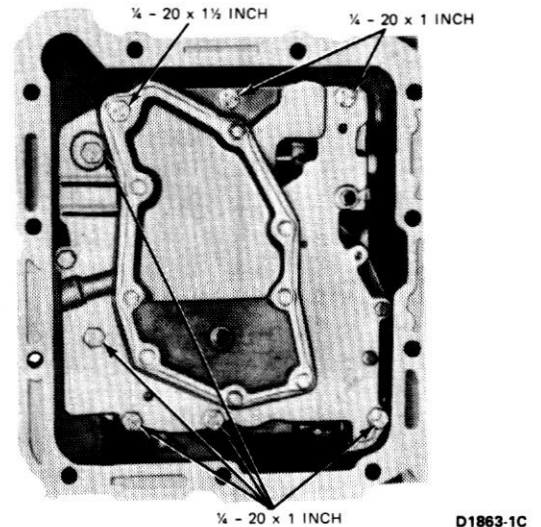

FIG. 16 Control Valve Body-To-Case Attaching Bolts—Typical
6. Remove the control valve body attaching bolts (Fig. 16). Remove the control valve body from the case.